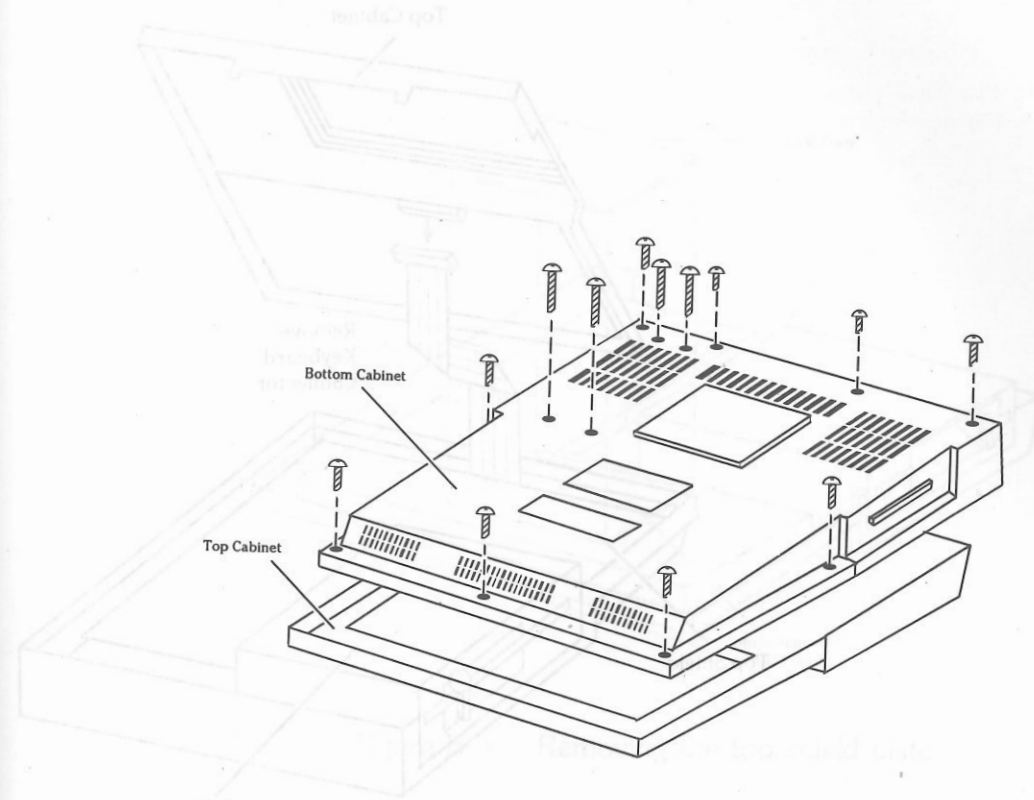

Figure B-1 Removing the top cabinet
- Turn the computer over and remove the top cabinet by loosening the screws at the bottom cabinet as in Figure B-1.